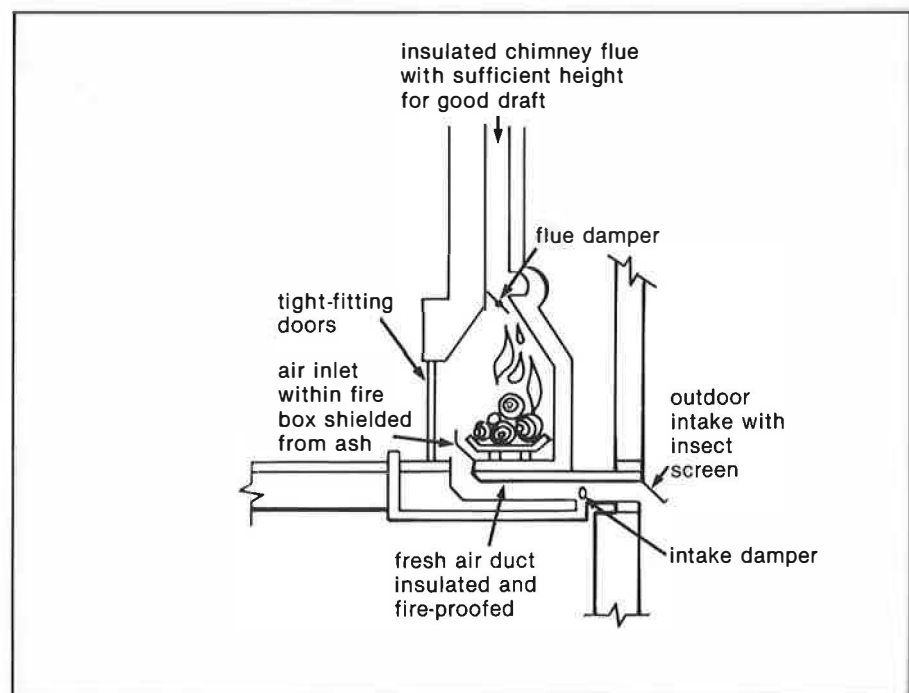

Fig. 22. Fresh air to fireplace.
- Provide fresh air directly to the firebox. The recommended duct size is 200 mm (8”) or two 150 mm (6”), or half the area of the flue. It may be necessary to fireproof this duct. Locate the fresh air outlet at the front of the fire box (fig. 22).